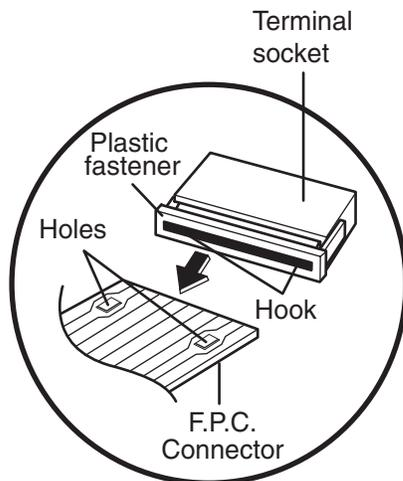

Figure 15
- (2) Lift up the lever of the plastic fastener from the terminal socket by lightly pressing the lever end with forefinger. (Figure 15)
- (3) Remove the F.P.C. connector from the terminal socket.